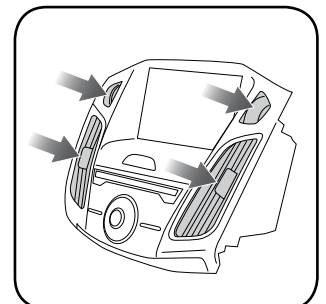

Fig. 1.8
8. Remove the vents from the factory bezel. (Fig. 1.8)